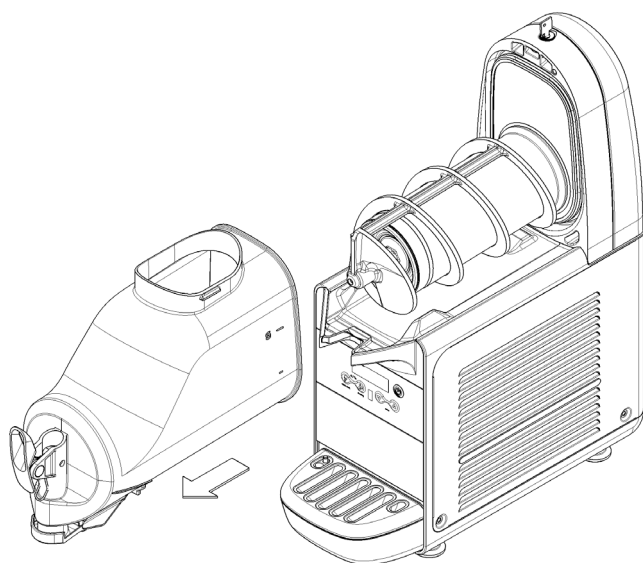

**figure 3**
**2** To remove the container, push the lever upwards (see figure 3) and then remove the container itself (see figure 4).